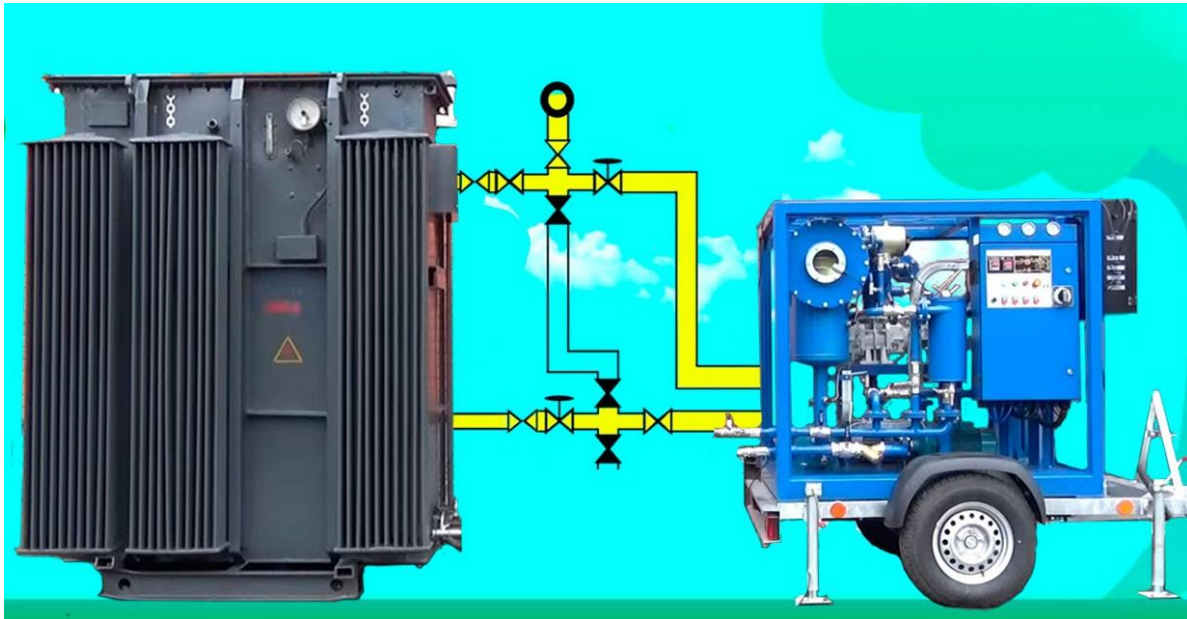
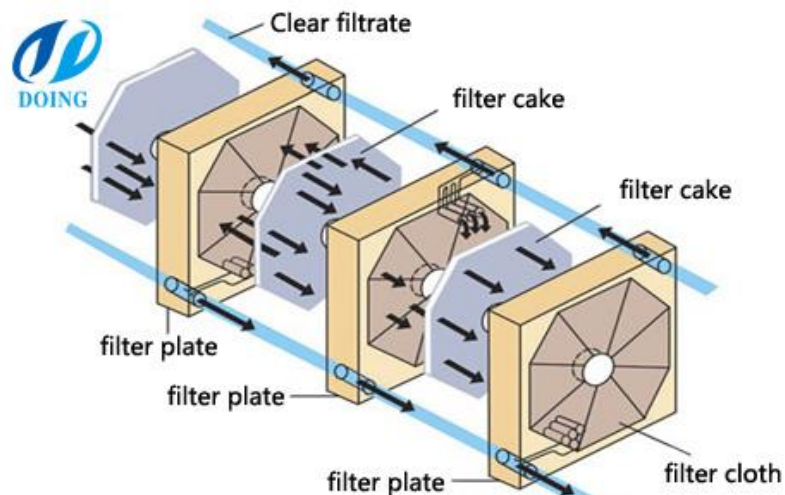

Figure 10.5: Portable Filtering System
Figure 10.6: Filter Plate for Transformer Liquid
- 10-32 Figure 10.5 is a diagram of a transformer being filled through a filter press. Figure 10-6, on the following page, shows the filter plate and filter paper. Figure 10.6 also shows how the oil flows through the press.
- 10-34 If you do not have a filter press, also shown in Figure 10.5, filter the liquid through two or more thicknesses of muslin as you pour it into the tank. Adjust the level after the liquid has settled for at least 12 hours.